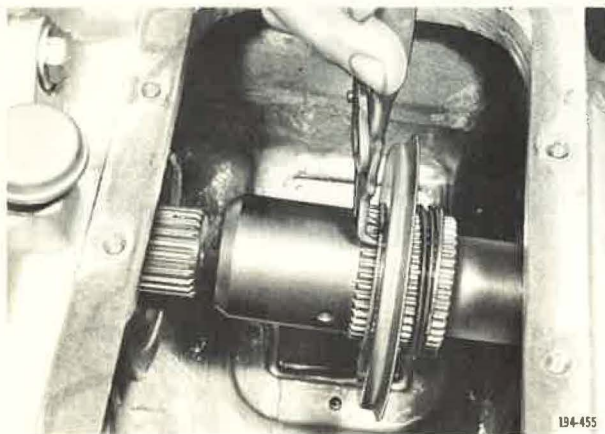

Figure 10. Removing Rear Countershaft Oil Slinger Front Snap Ring
11. Remove countershaft rear bearing cover capscrews and cover. Remove power-take-off cover capscrews and covers. Remove the lower and right-hand rear countershaft oil slinger front snap rings, or power-take-off gear front snap ring when incorporated. See Figure 10.